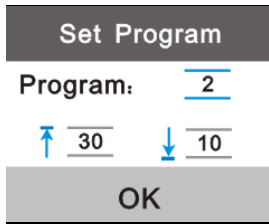

Fig 3.4 Program Select
- c. For a program not marked with the  icon, users could press <  **Up** > key or <  **Down** > key to select the procedure (as shown in Figure 3.4) and press <  **OK** > for confirmation;